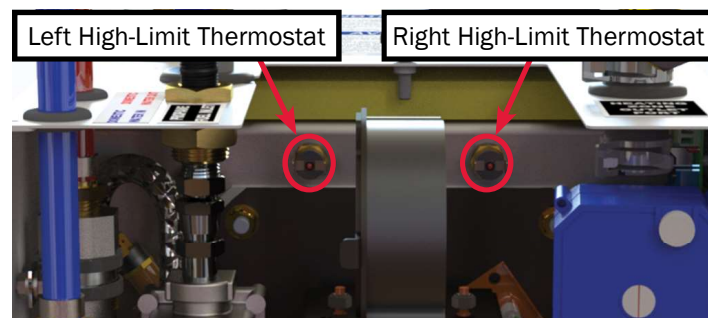

Figure 23
- Locate the high-limit thermostats (see Figure 23).